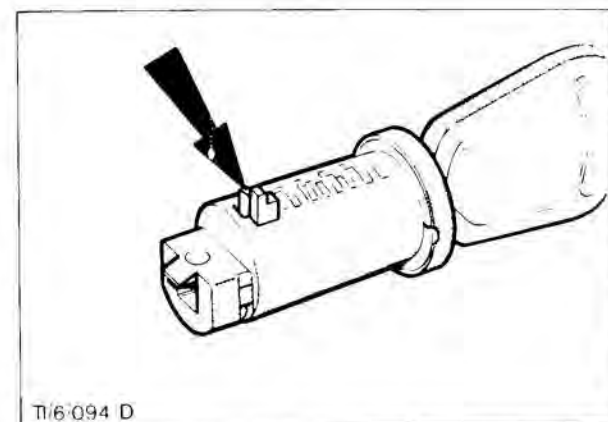

Fig. 77. Key barrel with key fully inserted showing securing ward
8. Insert key fully into barrel, and withdraw key approximately 5 mm (0.2 in) to bring additional ward, Fig. 77, flush with barrel.